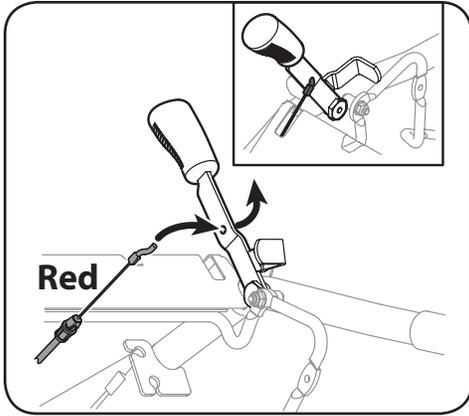

Figure 3-5
1. Carefully unwrap the reverse clutch control cable (red) from its shipping position and route it up along the right side handle. Position it so that it rests above the small groove on the handle assembly in front of the reverse drive handle. See Figure 3-5.
2. Insert the cable z-fitting into the slot in the control panel from the inside of the handle outward. See inset in Figure 3-5.